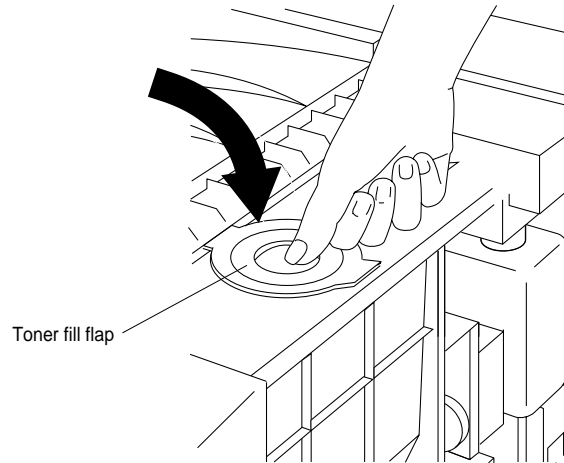

Figure 2-51 Closing the Toner Fill Flap
7. Close the toner fill flap, as shown in Figure 2-51.